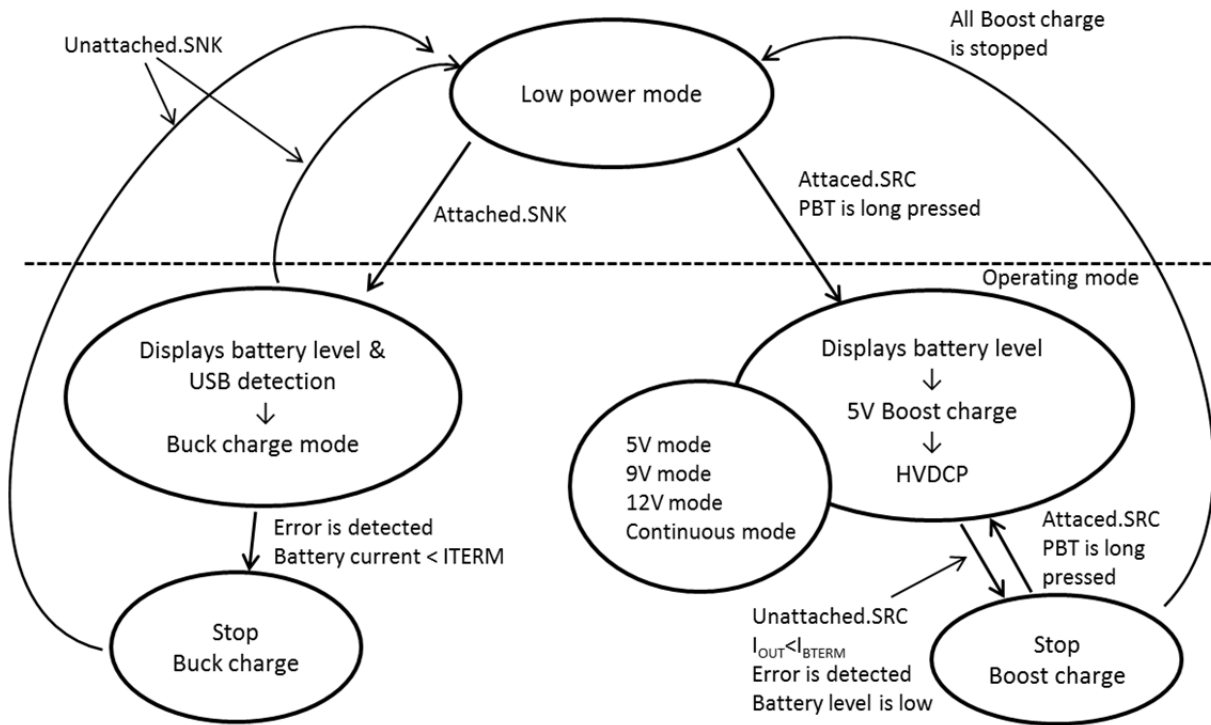

Figure 10: FW05 (DRP) state diagram
In Figure 10: FW05 DRP state diagram. Low power mode will transition into the Operating mode under following conditions of: a) Port control IC detects DRP is attached, or b) Connection to Type-A (2) port is detected by VB3DET, or c) Push button is pressed for long.